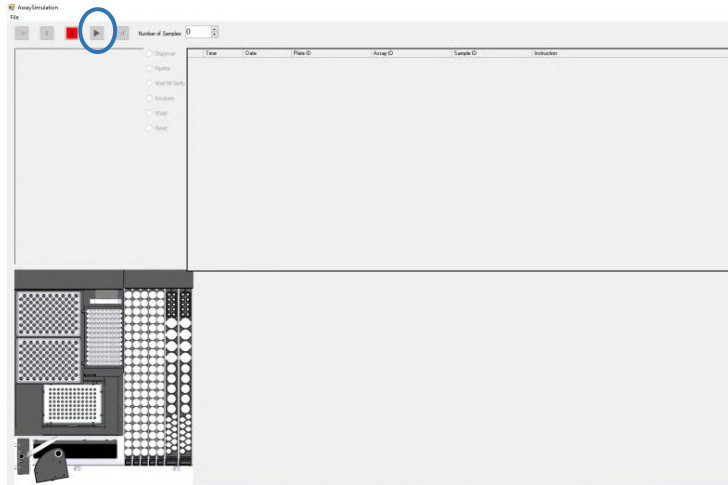

Figure 75: Assay Simulation Screen
1.  displays the *Assay Simulation* screen (Figure 75).